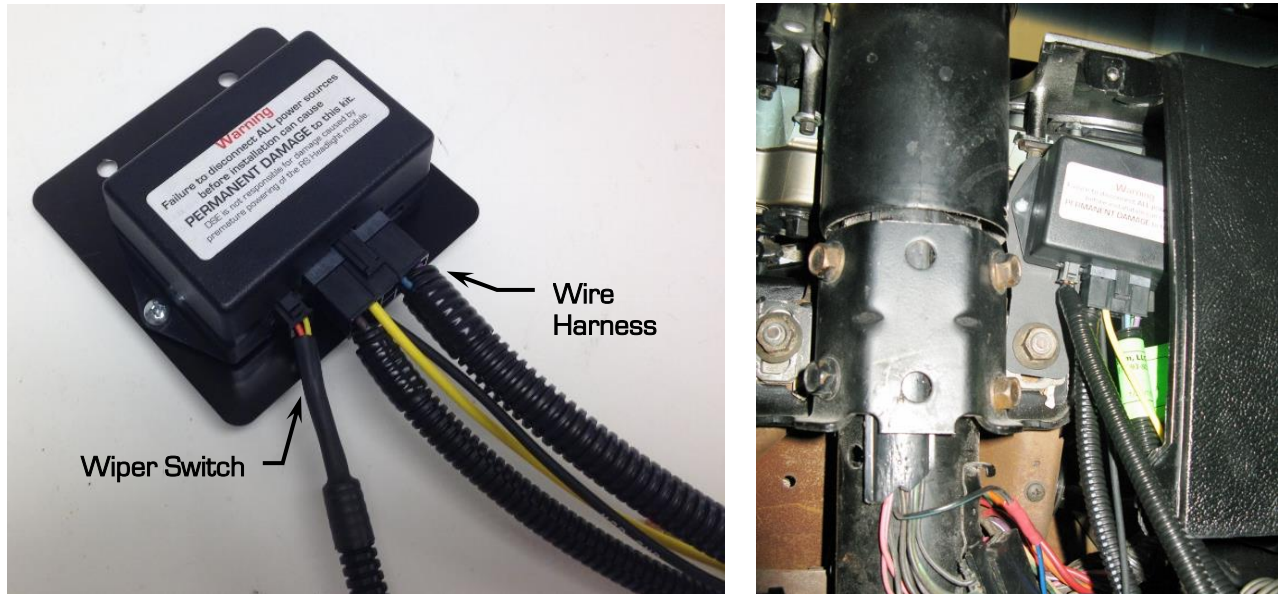

Figure 11 – Connect Wiper Switch & Harness to Module
15. With the wiper control module mounted in place, plug in the wiper switch and wiring harness connectors into the control module (Figure 11).